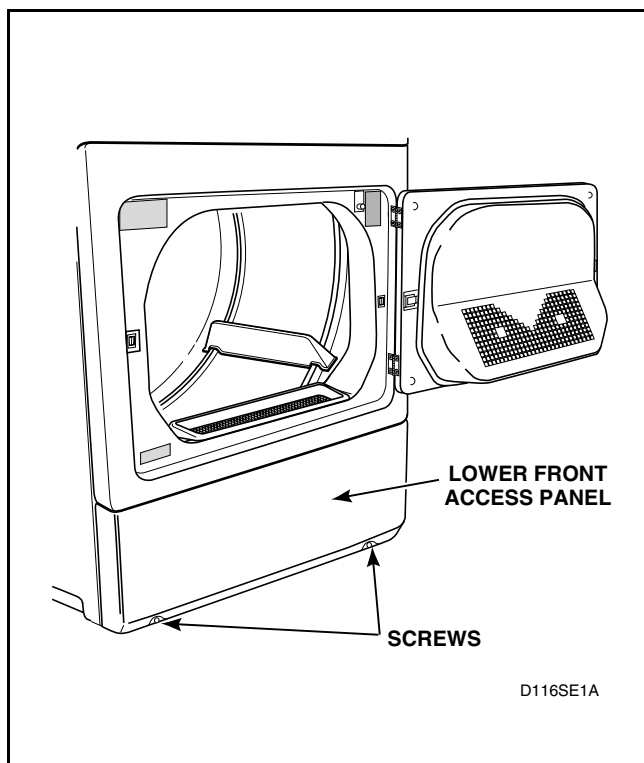

Figure 10
- While supporting the lower access panel, remove the lower front access panel from both the upper and lower dryers by removing the two screws from the bottom edge of each access panel. Refer to *Figure 10*.